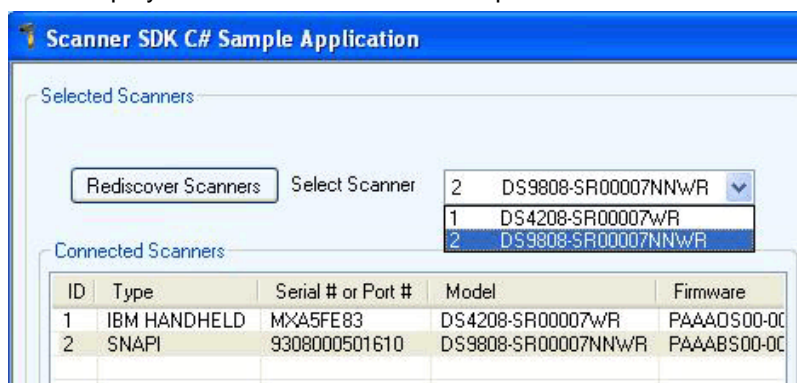

Figure 4-6 Scanner Selection
2. Select a "SNAPI" or "OPOS/IBM OPOS" mode scanner ID from the *Select Scanner* drop-down box. Your selection is reflected in the *Connected Scanners* window (see Figure 4-6 on page 4-10).